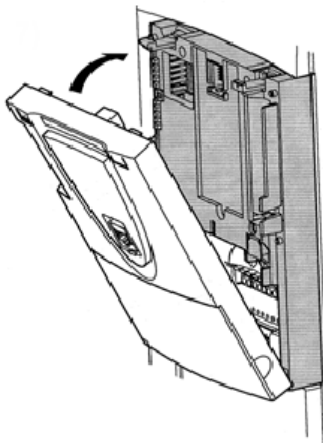

Figure 4: Reinstalling the Drive's Front Cover
5. Reinstall the drive's front cover by inserting the tabs on the bottom part of the front cover into the corresponding slots on the interface housing. Rotate the front cover up and press it onto the interface housing's mounting tabs, depressing firmly until the front cover snaps into place (Figure 4). Double-